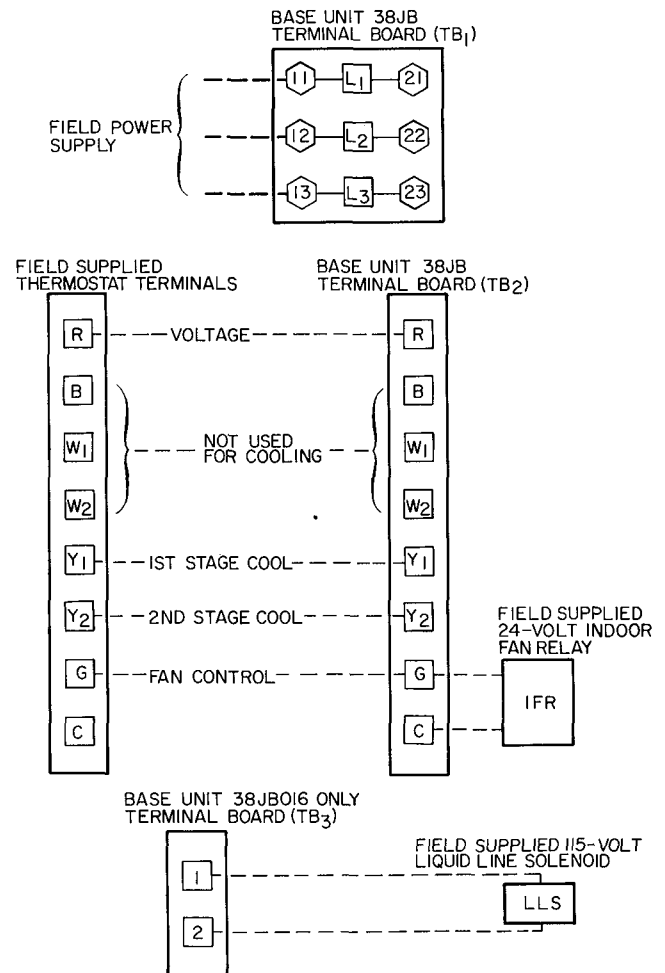

Fig. 4 — Electrical Connections
**BRING LINE POWER LEADS INTO UNIT** — Install airtight conduit connectors in side panel knockouts. Route all wires thru connectors to terminal blocks in control box. Refer to Fig. 4 and unit label diagram. Use copper, copper-clad aluminum, or aluminum wire from power supply. If aluminum wire is used, coat wire ends with a corrosive inhibiting flux. Install unit ground.
**CONNECT CONTROL POWER WIRING** — See Fig. 4. Make field power wire connections to terminal board (TB1).